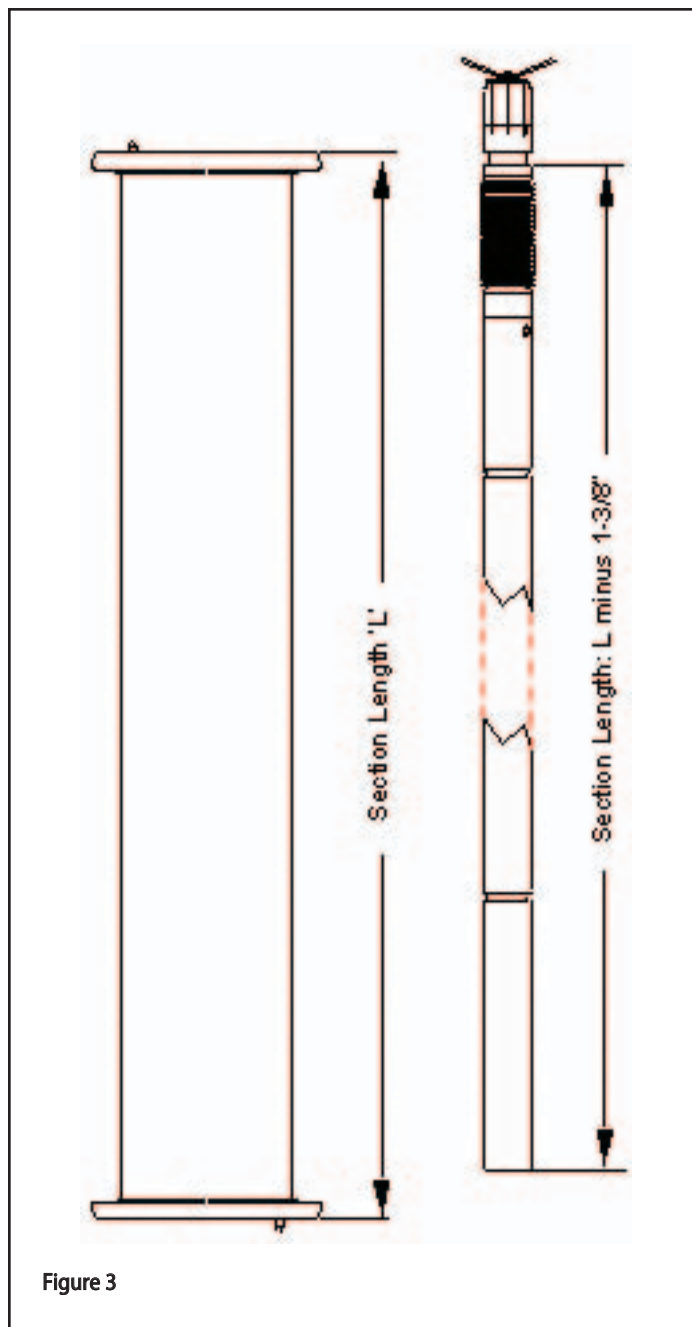

Figure 3
1. Determine exact flange-to-flange length of transmission line required and deduct 3/8" for MACX450-39 or 7/16" for the MACX675B-19. This is the distance from the contact face of the flange on the outer conductor to the cut position. See Figure 3.
6. Subtract 1-3/78" from outer conductor measured length. This is the required length of the inner conductor. Refer to Figure 3. If the outer conductor length is outside the ranges 109-120 inches and 170-200 inches, skip step 8 and go to step 9.